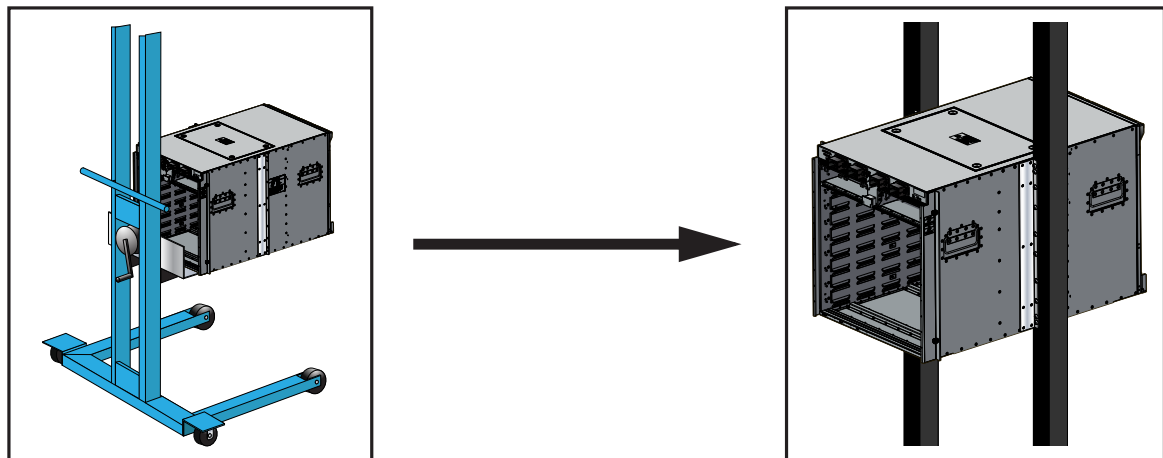

Figure 3-2: Lifting the Switch Chassis into the Two Post Rack
Step 1 Move the chassis to the rack using a mechanical lift (Figure 3-2).
Step 2 Lift the chassis into the rack. Position the flanges against the rack posts (Figure 3-2).